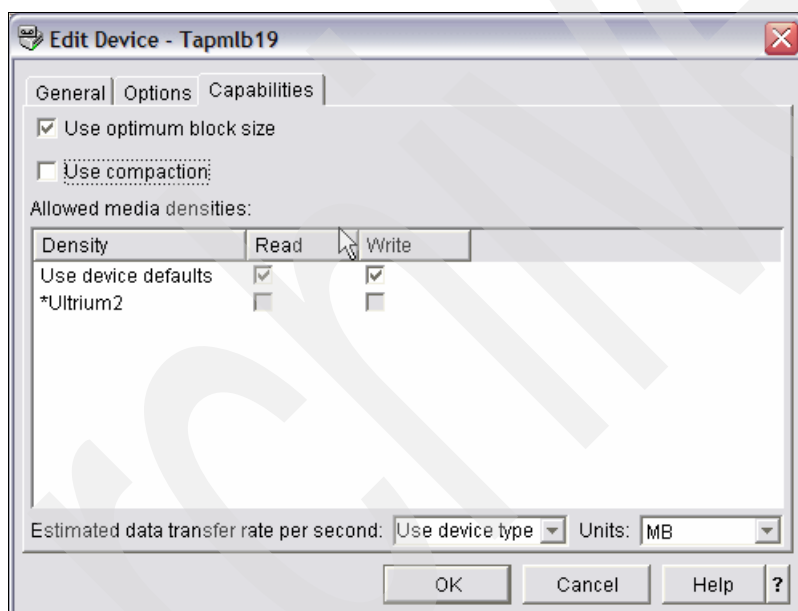

Figure 6-9 Edit Device - Capabilities
**Capabilities:** Under Capabilities, there are Use optimum block size and Compaction (Figure 6-9 on page 139).